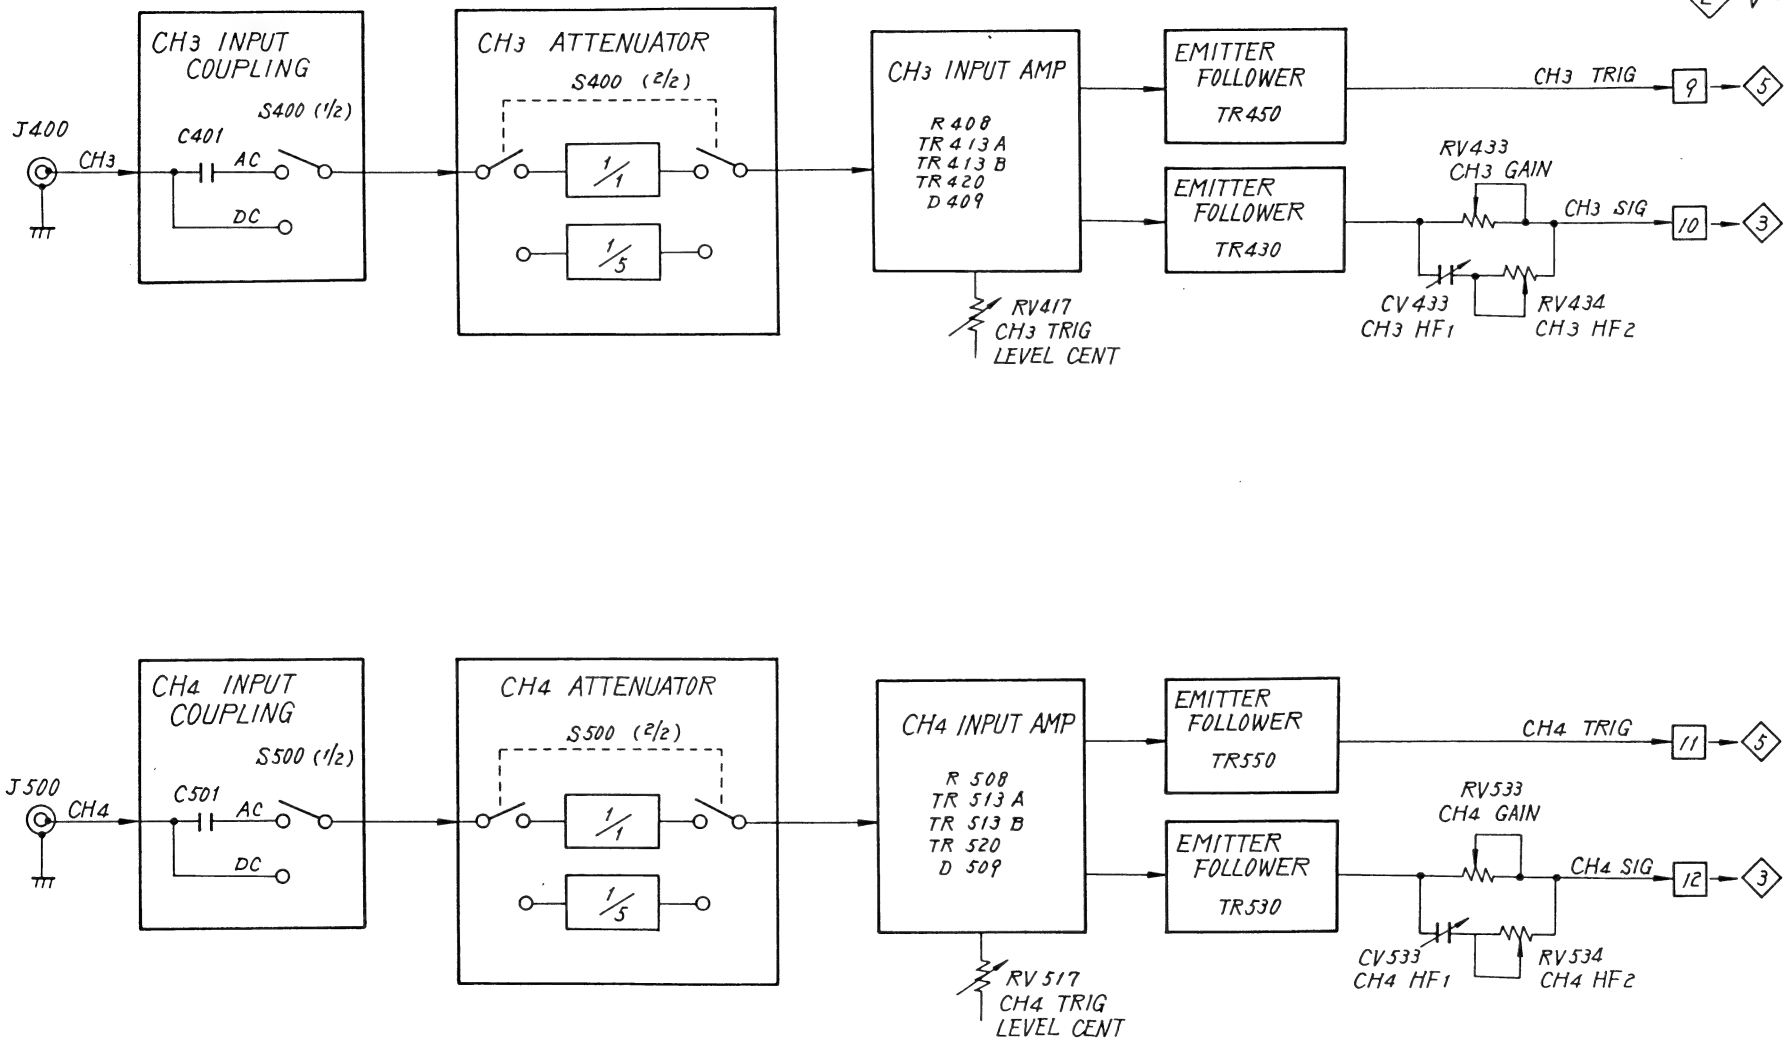
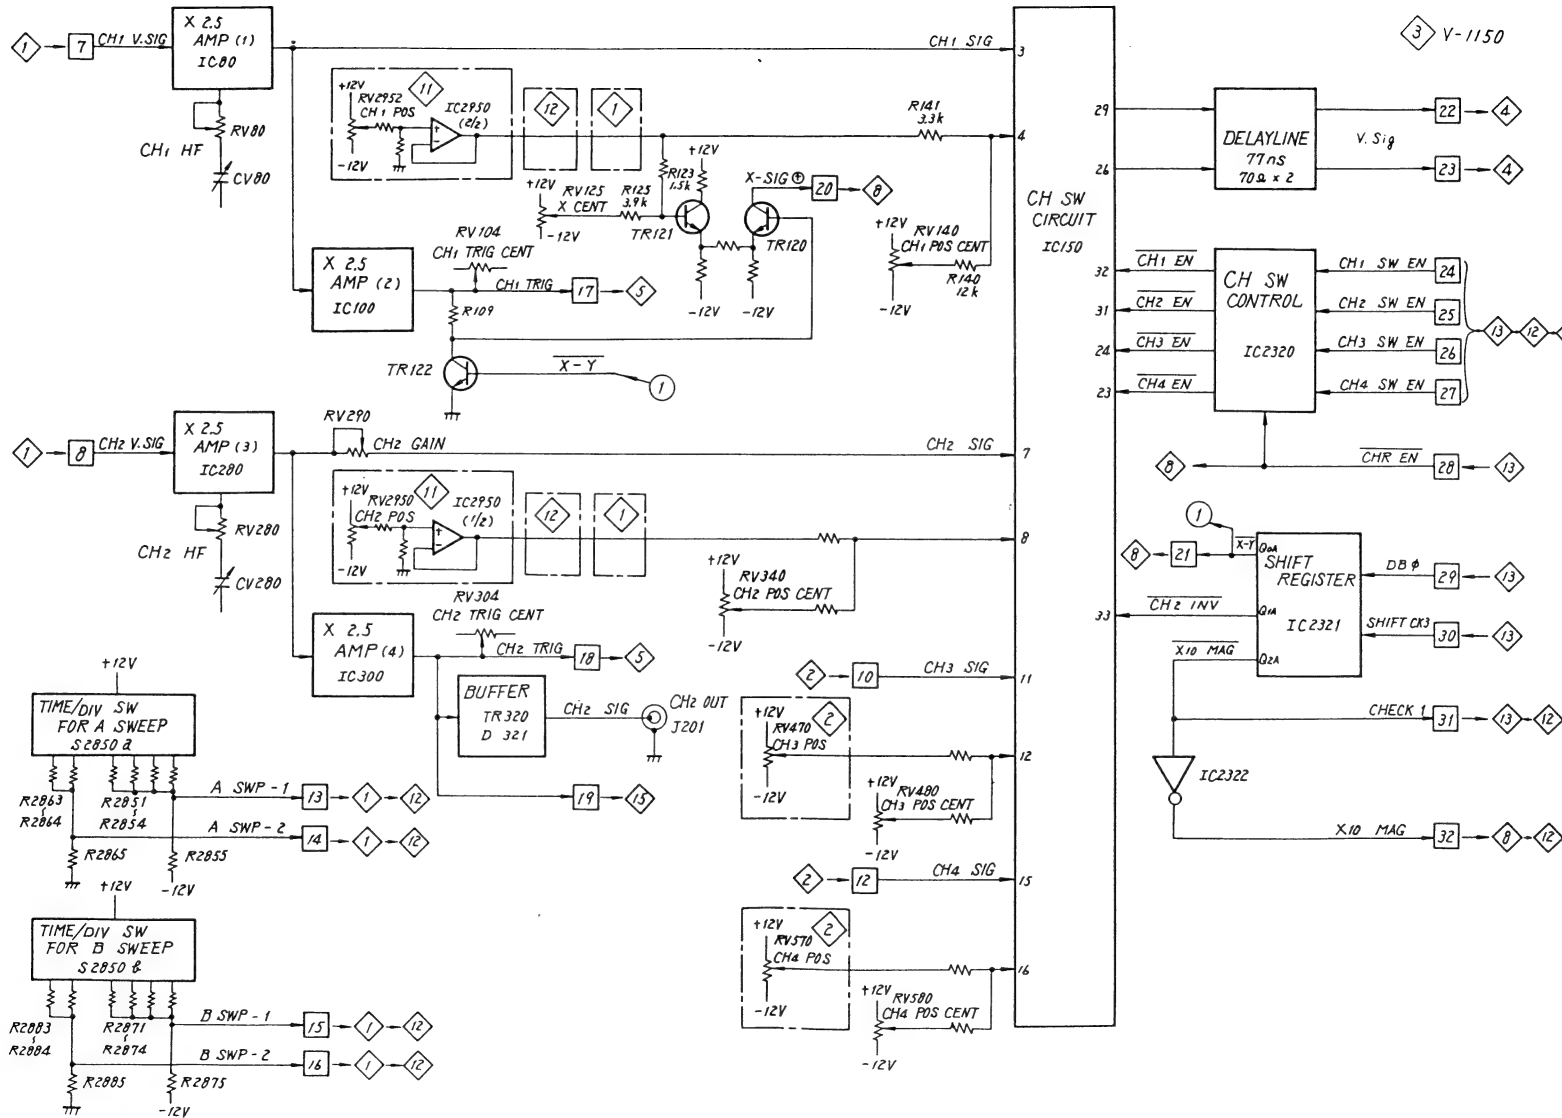

Fig. 6-3
Fig. 6-4
Figure 6-3 shows a detailed block diagram of this circuit. This circuit consists of a CH3 circuit and a CH4 circuit. Since the both circuits are identical, the description is made on the CH3 circuit. CH3 POS RV470 and CH4 POS RV570 are described in the Figure 6-4 Detailed Block Diagram of 3.
Figure 6-4 shows a detailed block diagram of this circuit. The CH1 V signal fed from [7] is amplified to 2.5 times the supplied voltage by X2.5 AMP(1) IC80 and fed to pin 3 of CH SW CIRCUIT IC150. Part of the amplified signal enters X2.5 AMP(2) IC100 and is further amplified to 2.5 times the supplied voltage.